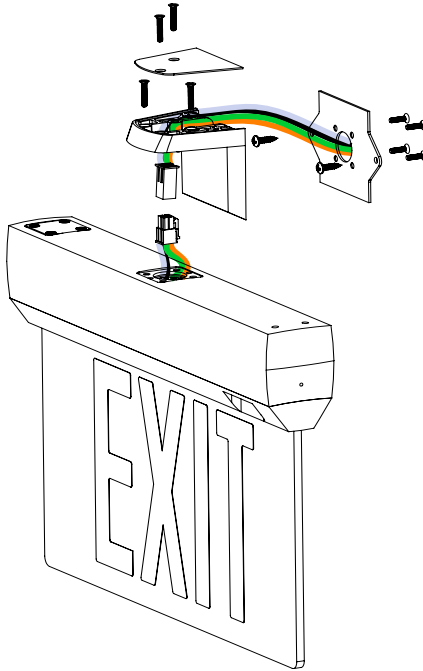

FIGURE 16: Surface Wall Mullion Mount
2. Move the wire entry cover plate from the "end" [Figure 16] position to the "center" position [Figure 17].